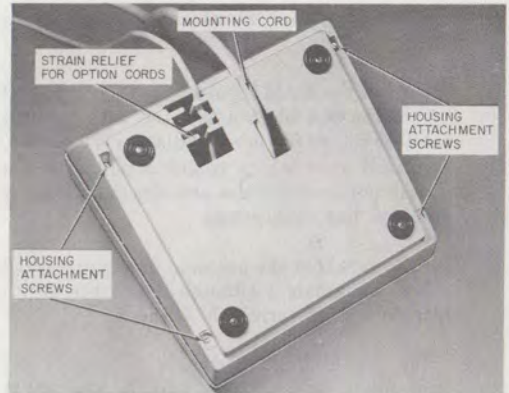

Fig. 42—Basic Satellite Desk Set, Bottom View
- (6) Plug one end of the D8W cord into the modular jack installed in (5).
- (7) Run the other end of the cord through the option cord opening in the lower housing (Fig. 42).
- (8) Reassemble the lower housing to the telephone set.
- (9) Secure the D8W cord around the strain relief bars.
(p) Reassemble lower housing to the telephone set (paragraph 5.15). Secure the speakerphone cord around the strain relief bars in the lower housing (Fig. 42).
- (i) Reassemble the telephone. Secure the cord around the strain relief bars in the lower housing (Fig. 42). Excess cordage can be tucked into the telephone set.